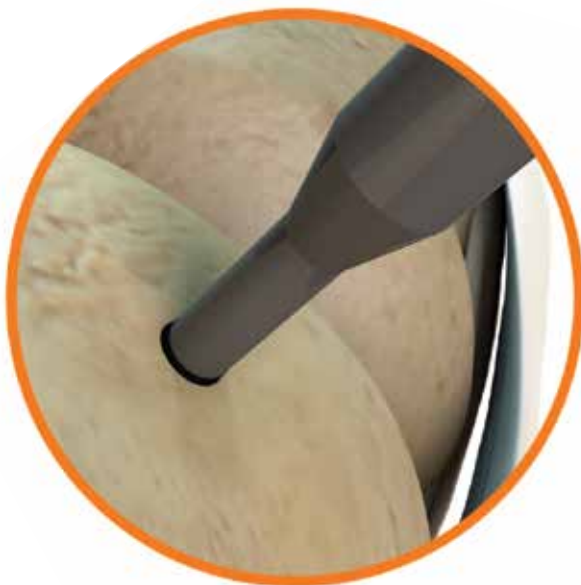

Figure 19
10. Insert the Nitinol Suture Passer from the Unilateral Procedure Pack through the handle and tap assembly. Pass the two strands of the monofilament sutures through the loop of the Nitinol Suture Passer and pull the suture through the handle and tap assembly. Tap the hole until the top of the laser mark is flush with the bone (Figure 19). Remove the handle and tap assembly from the two strands of the monofilament sutures. Remove the hemostat from the distal knot of the monofilament suture.